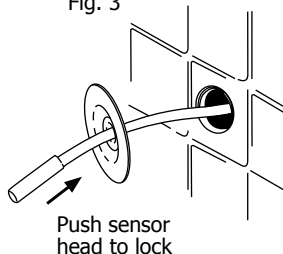

Fig. 4
5. Apply silicone sealant on the hole in the wall to create a moisture seal (Fig. 4). Make sure that there is no trace of silicone on the sensor as it may interfere its reading.